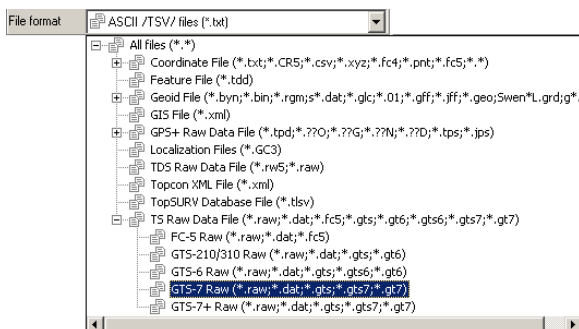

Figure 3-2. File Format List
2. In the left panel, select file type (Figure 3-2).